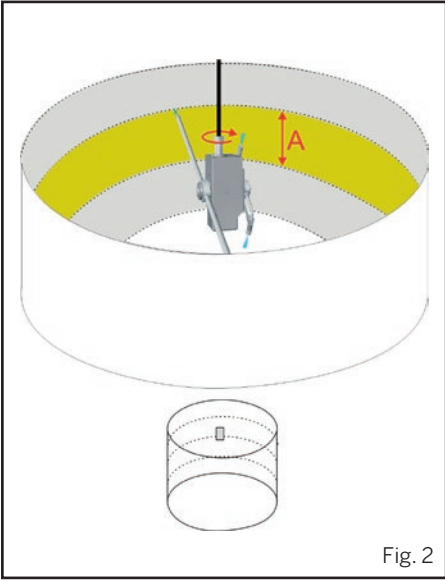

Fig. 2 - Large cylindrical vessel
In smaller diameter large cylindrical vessels (Fig. 2), the tank cleaning head is positioned centrally. The limits on the rotational motion around the vertical axis of the apparatus (B) are removed to enable the full 360°.